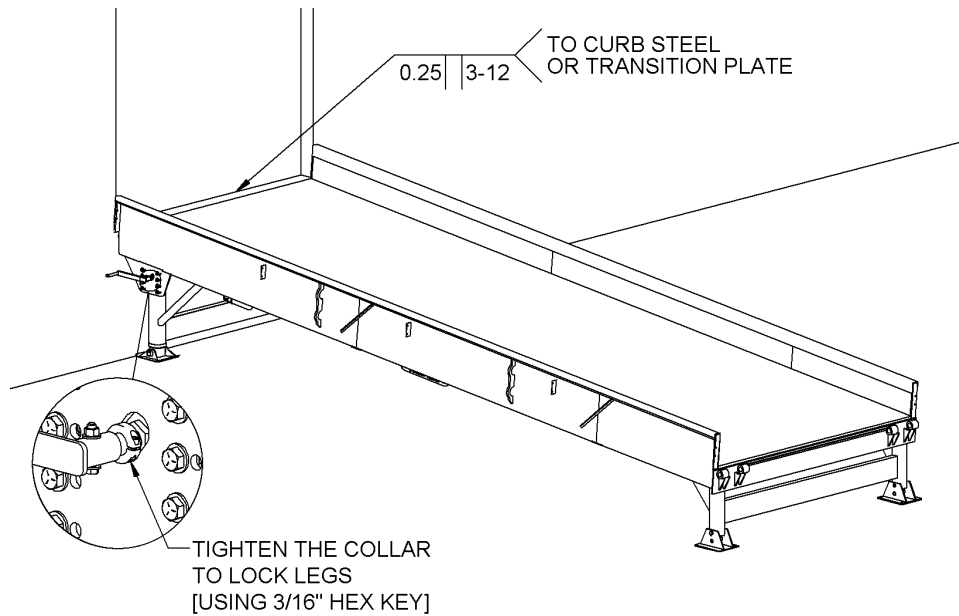

Figure 7: Welding and Locking Legs on Upper Ramp
7. Weld the ramp to curb steel or transition plate as shown in Figure 7. Clean all weld joints and touch up any damaged paint.